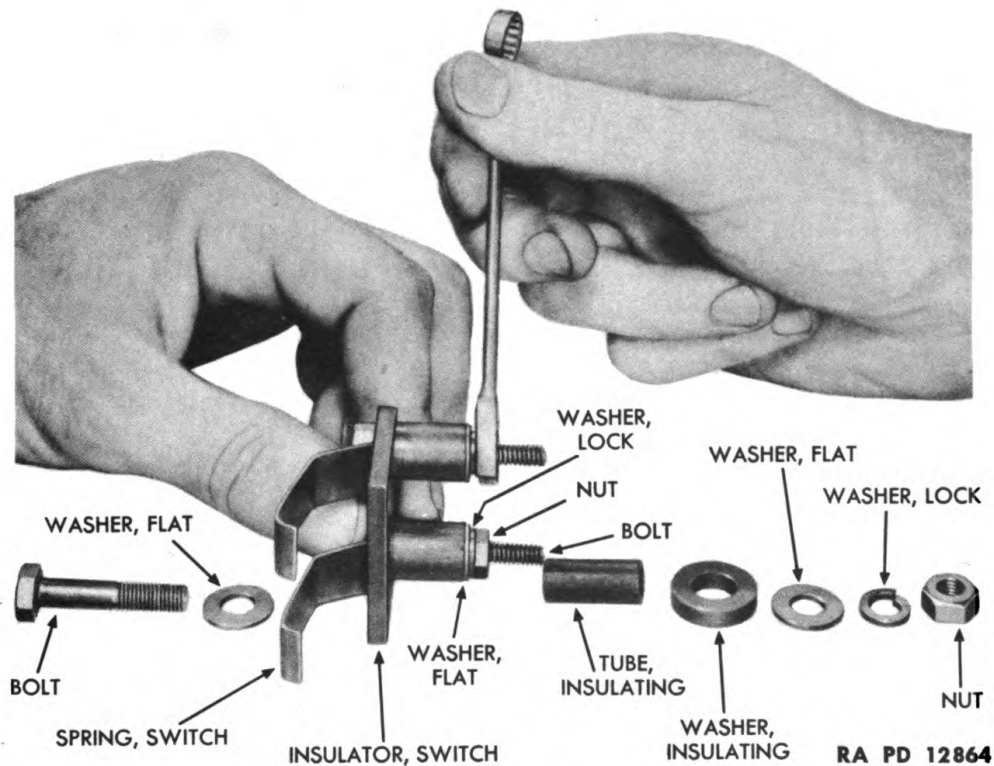

Figure 147—Removing Insulating Tubes and Switch Springs from Switch Insulator
(e) Remove two switch terminal screws which hold switch contact to inner valve lever (fig. 147). Remove two lock washers, flat washers, switch contact insulating washers, switch contact and switch contact insulator.
(14) REMOVE INSULATING POSTS AND SWITCH SPRINGS FROM SWITCH INSULATOR (fig. 147).